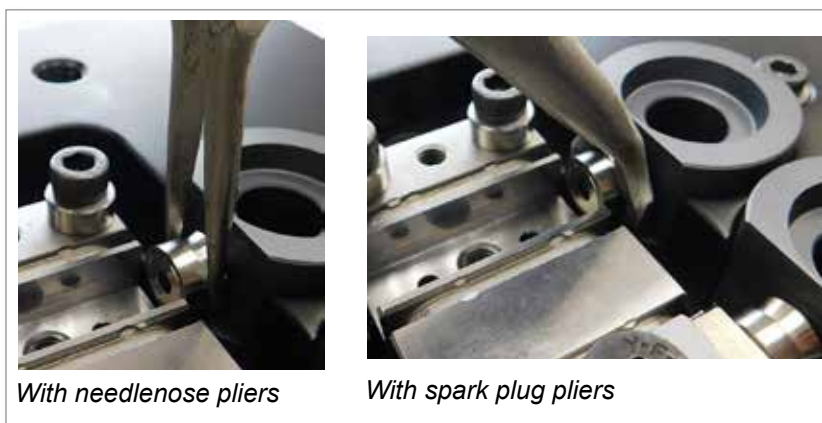

Figure 5-106 Remove the gate seal
5. Insert the extraction tool or pliers into the groove of the transfer seal, and gently twist the gate seal out of the cavity. See the following or Figure 5-106.